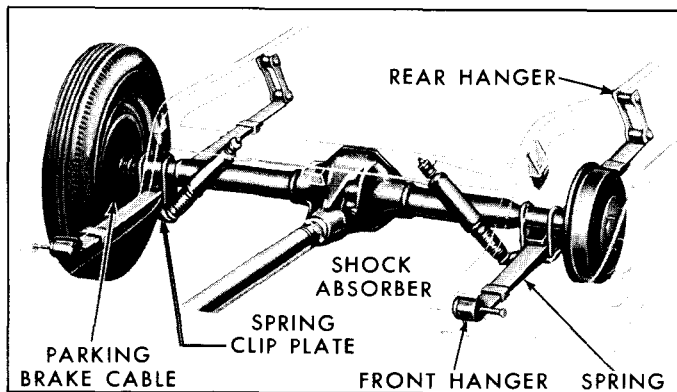

Fig. 4-1—Rear Suspension Assembly—(60C-801)
Semi-elliptical rear springs are mounted longitudinally to the body-frame side rail. See figure 4-1.
1. Refer to figure 4-1. Raise the car until the rear wheels clear the floor and place support stands beneath the underbody.
Rear shock absorbers are a restricted, double acting hydraulic, non-adjustable telescopic type. The lower end of the shock absorber is mounted to the rear spring plate by means of the shock absorber stud, bushings, washers and a nut. The upper end is equipped with a stud and is secured to the rear upper shock absorber mounting bracket by bushings, washers and a nut. See figure 4-1.